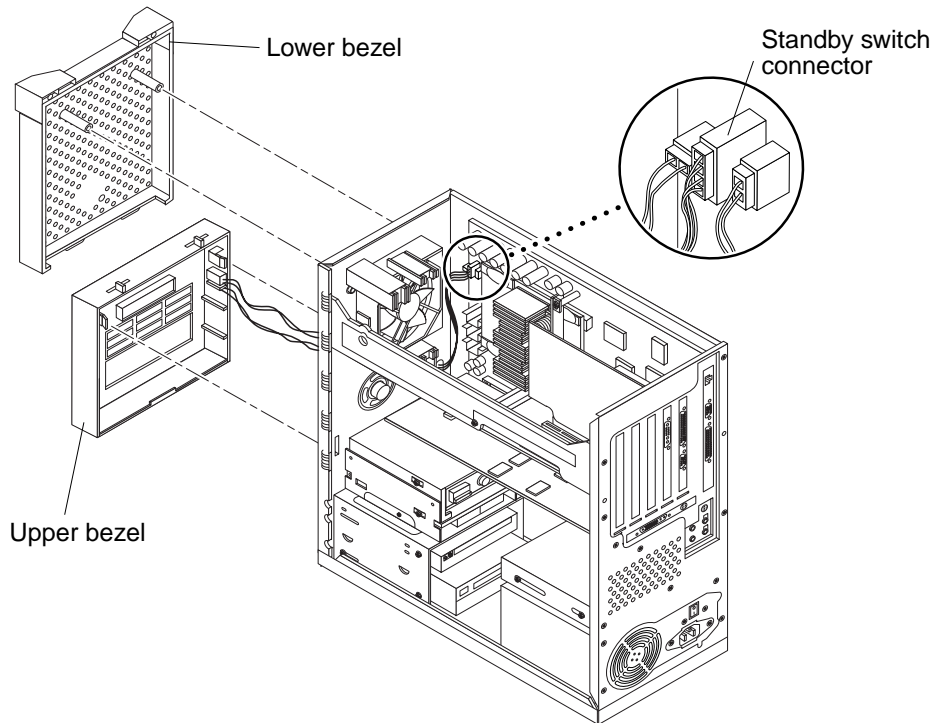

FIGURE 6-8 Removing and Replacing the Front Bezel
3. **Remove the front bezel as follows (FIGURE 6-8):**
1. **Replace the front bezel as follows (FIGURE 6-8):**